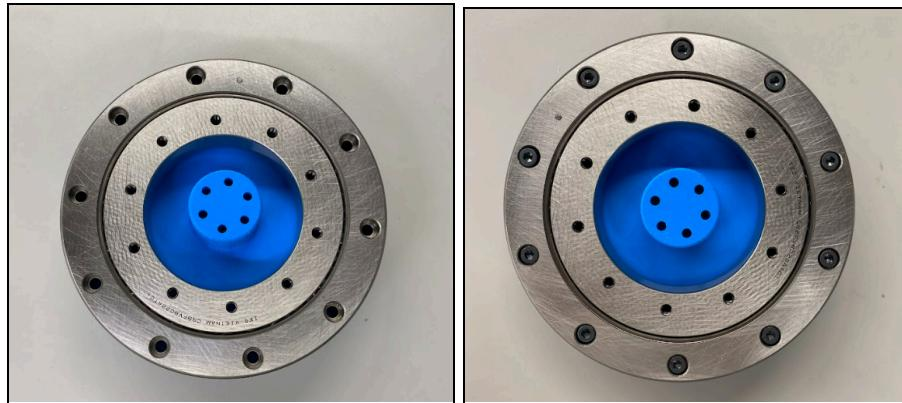

Figure 5: J1 Mushroom Cap to J1 Cross Roller Bearing
- Align the holes on the outer ring of the bearing with the M5 heat set inserts in the J1 Mushroom Cap. **Please ensure that the orientation of the bearing is so that the counter bored parts are where the fasteners go in first.** See Figure 5.
- Place the J1 Cross Roller Bearing (2010N16) on top of the center hole in the J1 Motor Cover. **Please ensure that the orientation of the bearing is so that the counter sunk parts are closest to the J1 Motor Cover, you do not want them facing outwards.** See Figure 5.